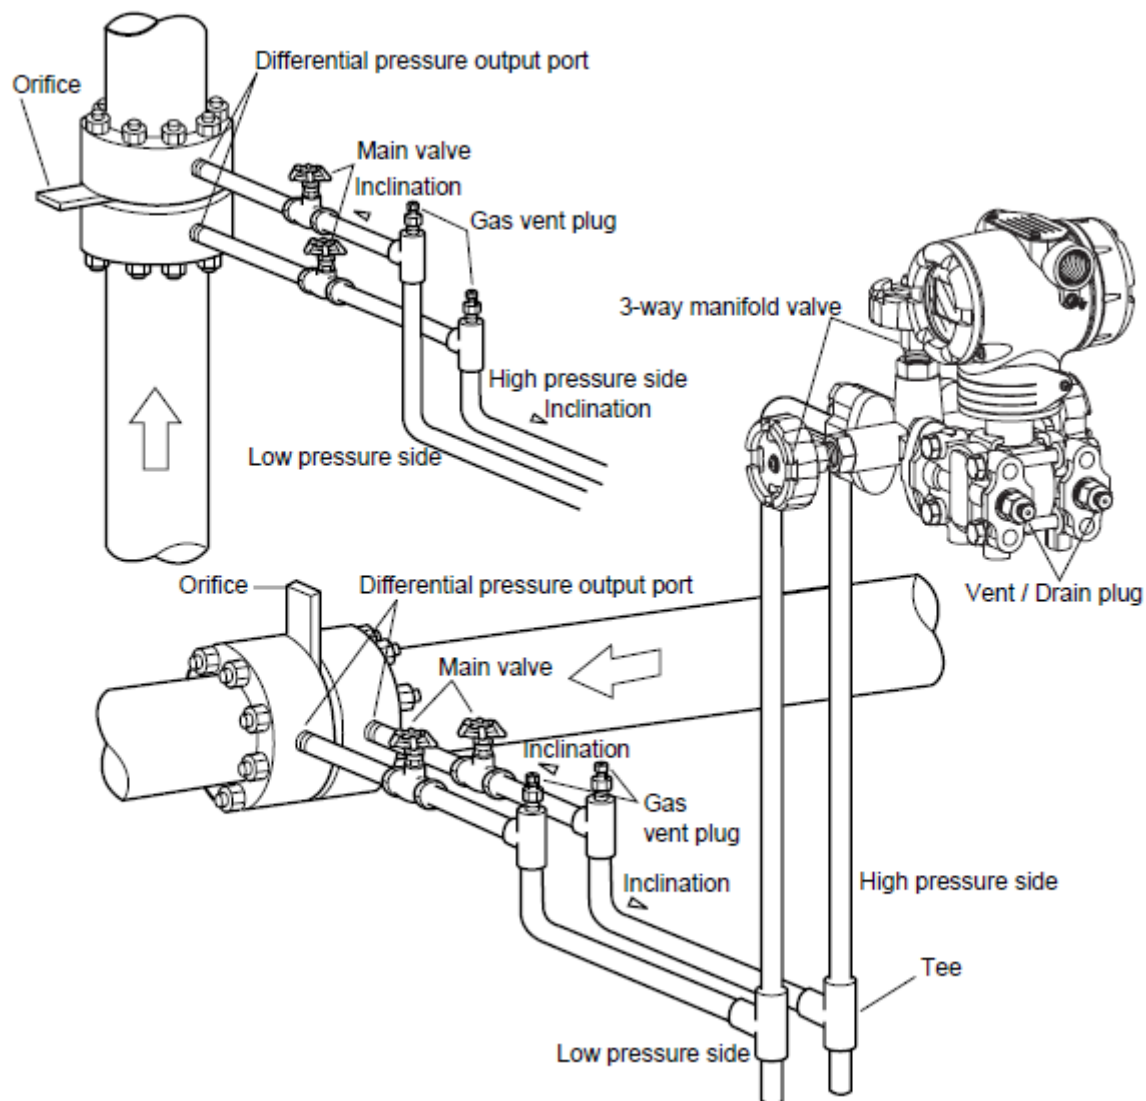

Figure 6. Gas Flow Rate Measurement
Figure 6 shows a typical example for Gas Flow Rate Measurement. The differential pressure transmitter is located above the differential pressure output port of the process pipe. The condensate drains away from the transmitter.
- ◆ Incline the pipe as indicated in Figure 6 at the differential pressure output port.